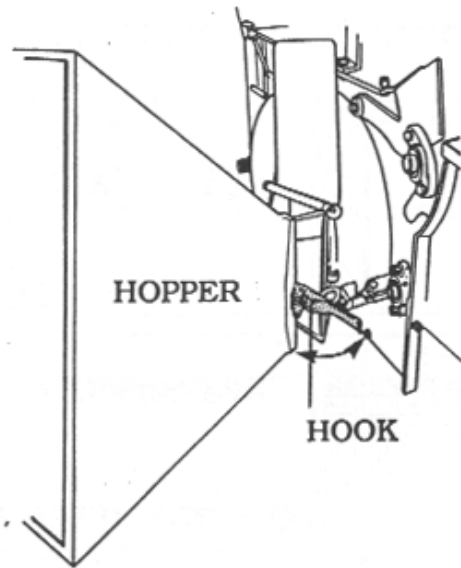

fig. 3
3. Close the chipper hopper and secure it (see Fig.3).